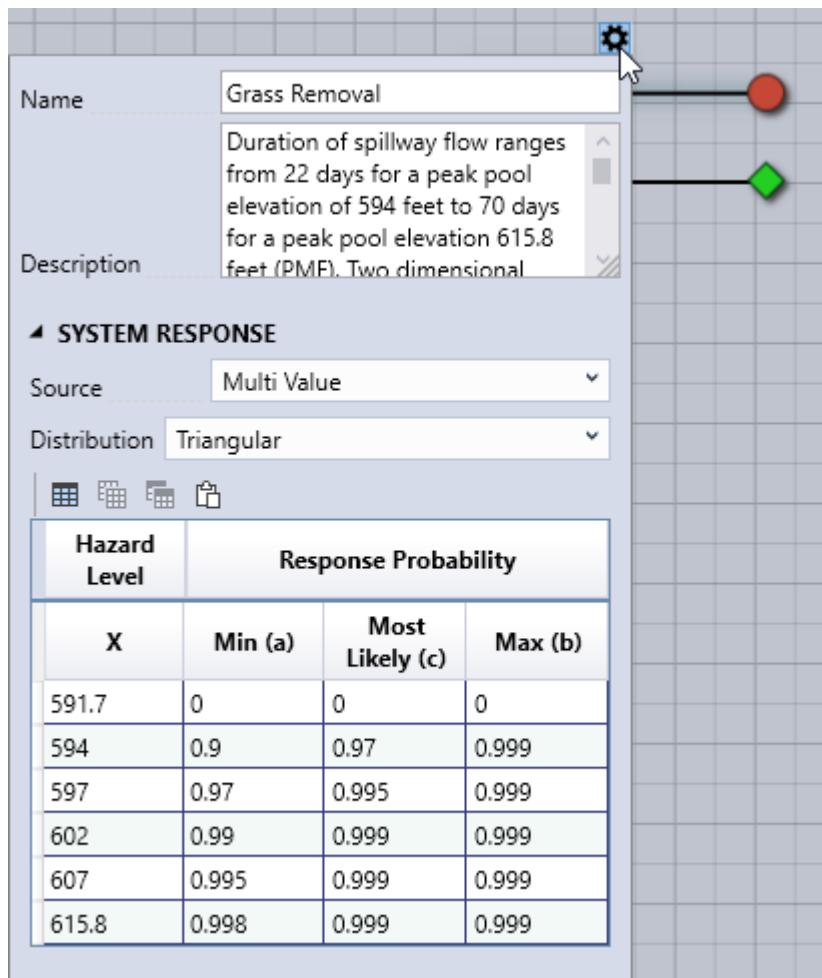

Figure 8.7: Properties for the Grass Removal probability event tree node.
4. **Add a new node.** Add the next node in the event tree using one of the following methods: Click the **Add New Branch** button  in the node toolbar, use the right-click node context menu on the node, or navigate to the **Sub-Branche Properties** section in the Properties window. After adding the node, use the **Node Properties Editor** to rename it, add a description, and define the event's probability for each hazard level specified in step 1 (Figure 8.7).